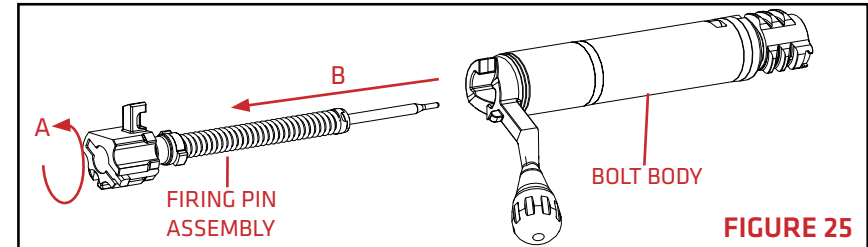

FIGURE 25
4. Rotate the firing pin assembly counter clockwise 120 degrees (FIGURE 25-A) and withdraw from the bolt body (FIGURE 25-B).